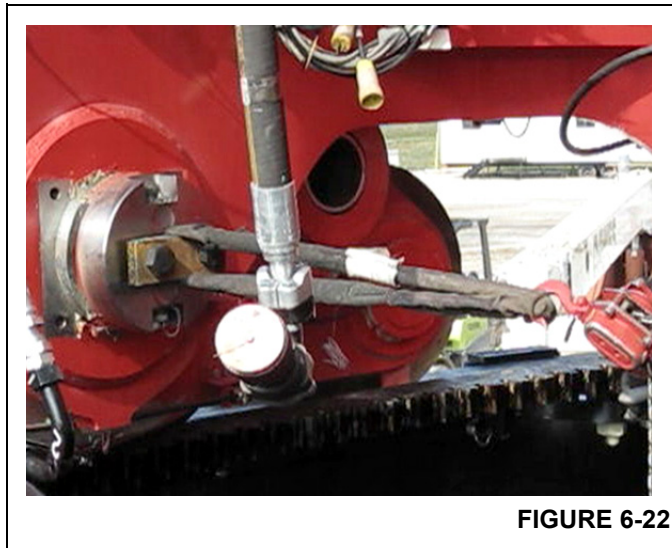

FIGURE 6-22
See Figure 6-21 and Figure 6-22 for the following procedure.
2. Attach plate or eye-bolts to inside of load pin. Support and remove load pin (Figure 6-22).